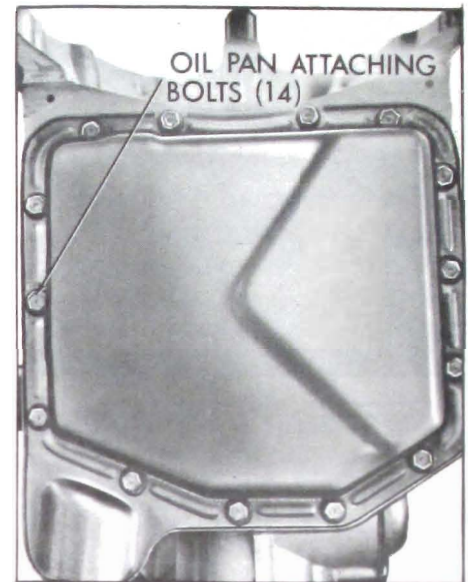

Figure 5-350
16. Install fourteen (14) oil pan attaching bolts. Torque bolts to 10-12 ft. lbs. See Figure 5-350.